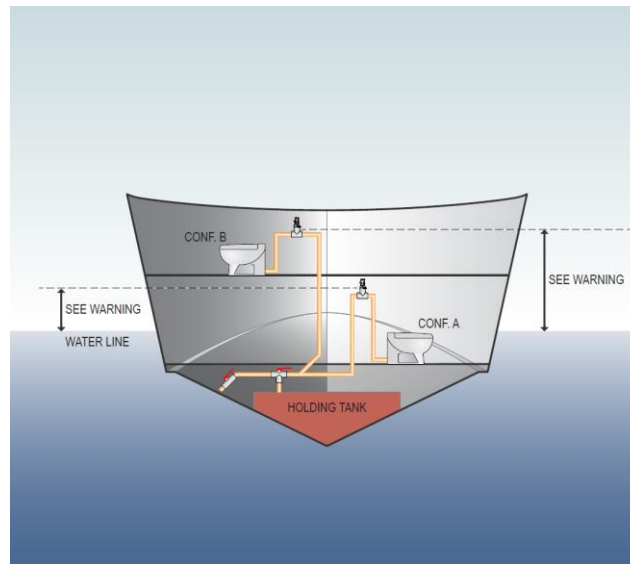

Fig.1
WARNING: Toilet configuration (A). The toilet is installed below the floating line. Install a VENT VALVE at a height greater than the line. See fig. 1.
WARNING: Toilet configuration (B). Toilet installed above the floating level. Install a VENT VALVE to prevent siphoning phenomena that may cause unpleasant odours. See fig. 1.